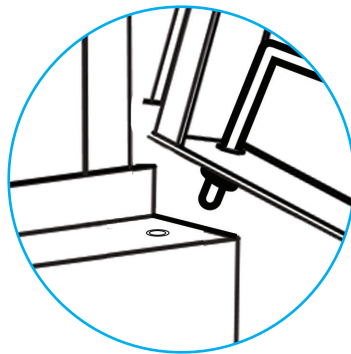

Figure 5
5. With the top corner of the door angled slightly away from the enclosure, gently **Insert** the **Bottom Pin**, ensuring it is **Fully Extended** into the **Washer** and the **Lower Hinge Hole**. (Figure 5)